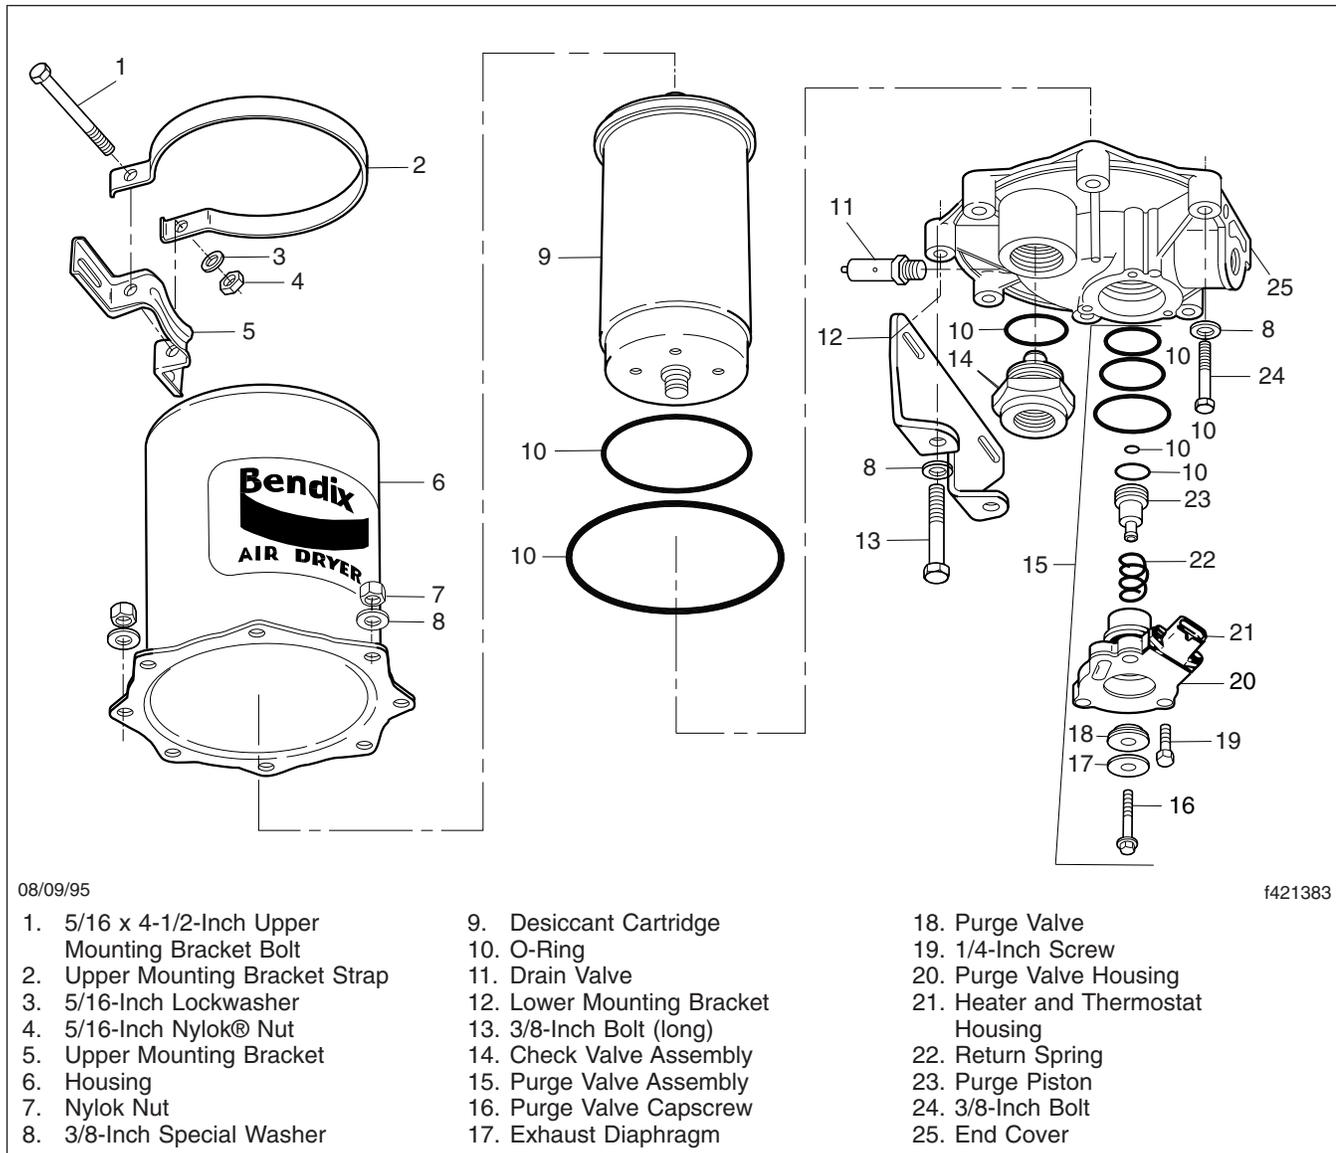

Fig. 1, AD-9 Air Dryer
8. Place the air dryer on a bench and remove the remaining 6 bolts, 12 washers, 6 nuts, and the air dryer housing. See Fig. 1. Discard the nuts. Remove the end-cover-to-housing O-ring.